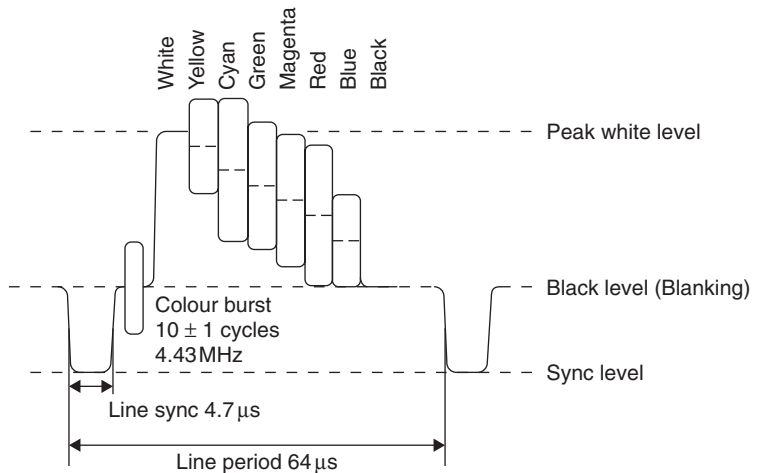

Figure 18.6 PAL colour bar signal
The chroma carrier frequency is modulated on to the video signal, forming a subcarrier. The frequency is very precisely chosen so that the modulated chroma signal can be added to the luma component (Figure 18.6). In the PAL system this subcarrier is set at 4.433 618 75 MHz and this allows the luma and chroma components to be separated at the receiver without mutual interference. Because the green (G) signal component is contained within the Y signal, processing in the receiver decoder recovers the third colour difference signal, G-Y. The original R, G and B signal components are then recovered simply by adding the Y signal to each colour difference. Line synchronizing pulses and a 10-cycle burst of chroma subcarrier are then added to produce the composite video waveform as shown. This signal is used to amplitude modulate the final radiating RF carrier.